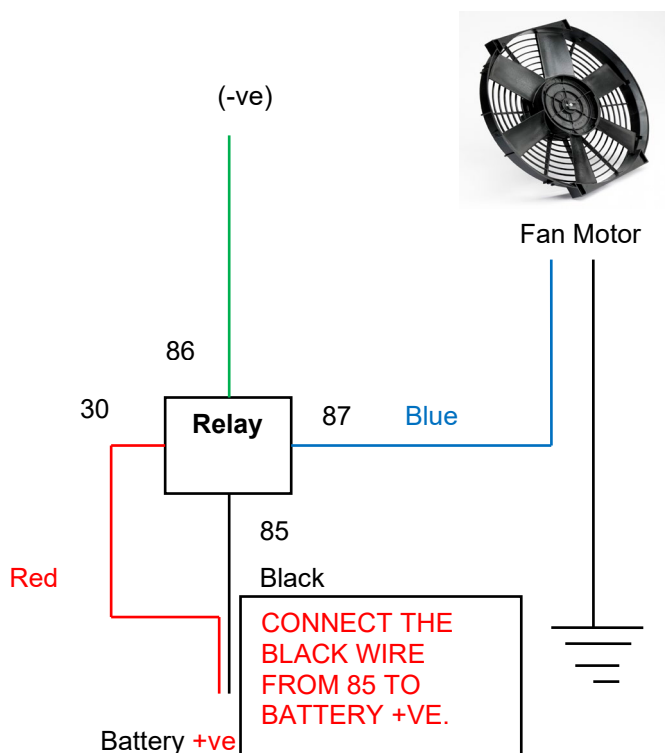

Figure 5: Fan to Controller wiring diagram
FLASHING = EWP operating in 'pulsing' mode – Refer Figure 5, areas (A) & (B).
ON = Electric Water Pump (EWP®) running between 6V – Battery Voltage: Refer Figure 5, area (C)
Please refer to the figure 5 for fan to controller wiring details. Please call Davies, Craig at (03)93691234 if you required another remote LED to complete the wiring.